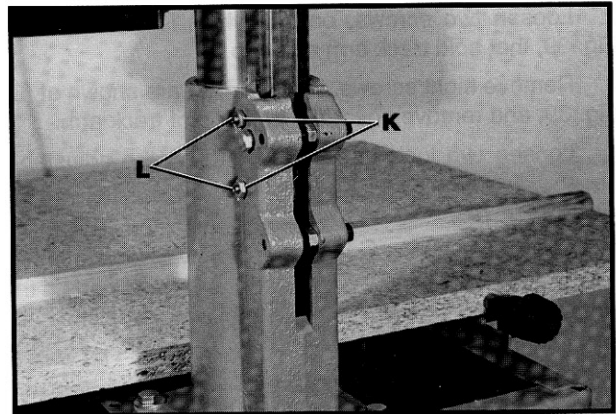
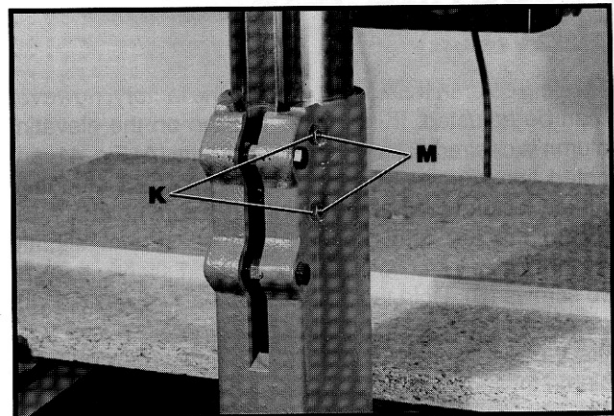

Fig. 44
Fig. 45
6. If an adjustment is necessary, loosen locknuts (K) Figs. 44 and 45. If the track arm must be moved to the right when facing the rear of the saw, loosen two set screws (L) Fig. 44, and tighten two set screws (M) Fig. 45. If the track arm must be moved to the left when facing the rear of the saw, loosen two set screws (M) Fig. 45, and tighten two set screws (L) Fig. 44. Tighten four locknuts (K) Figs. 44 and 45. **IMPORTANT:** When you are certain the saw blade travel is square with the fence, check to see if the track arm elevating mechanism operates smoothly. If it does not operate smoothly, adjust screws (L) and (M) Figs. 44 and 45, and being careful that the saw blade travel remains square with the fence (wrench travels parallel to the square).